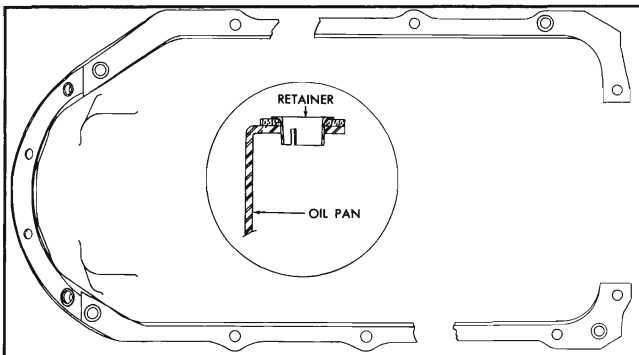
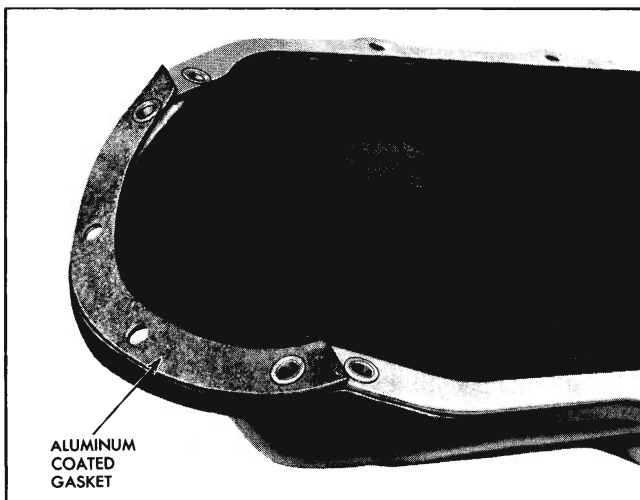

Fig. 6-46 Pan Gasket Retainer Location
Fig. 6-47 Oil Pan Gaskets Positioned for Installation
9. Apply gasket cement to gasket surface of oil pan and position new gaskets on pan using gasket retainers where shown (Fig. 6-46). Make sure front gasket overlaps side gaskets (Fig. 6-47). Retainers should be used to hold gasket in position for installation.